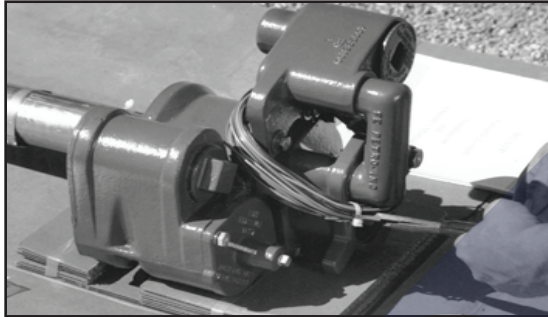

Figure 4: Cut Wires
- Cut wire tie(s) securing the motor wire at the top of the pump; lay the wires out above the pump head so that wires can feed through conduit freely when setting length (Figure 4).